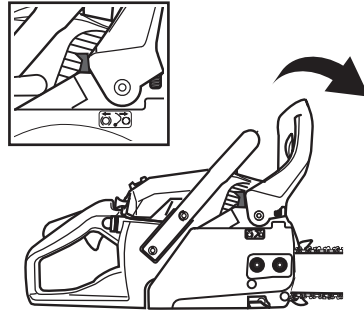

Fig. 25
The chain brake (2) in the engaged position, the saw chain is stopped as soon as the chain brake is activated (Fig. 25).